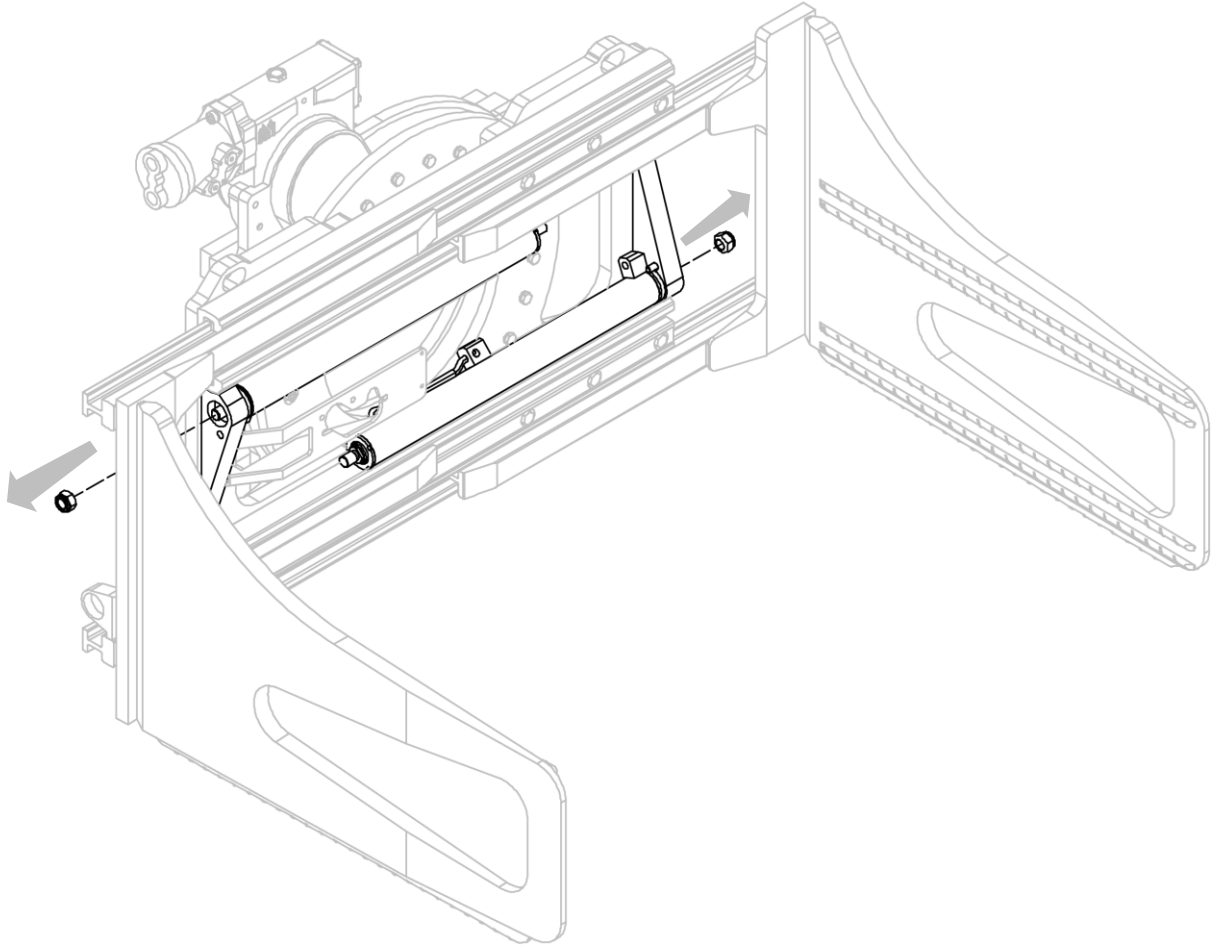

Figure 29
7. Remove, one at a time, the nuts that secure the cylinders to the equipment assembly and remove the cylinders themselves, taking care not to damage them (see *Figure 29*).